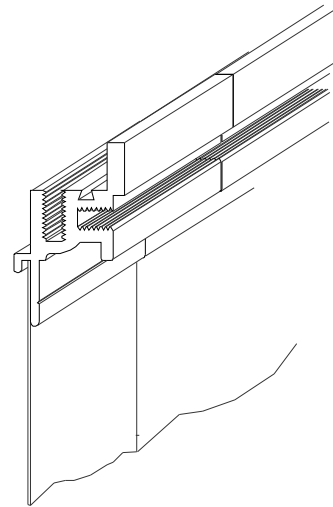

Figure 8
**STEP 3.** Abut the mating sections of the frame together as tightly as possible (see Figure 8). Ensure that the system is level, even, the proper width, flush with the finished floor, and properly aligned.